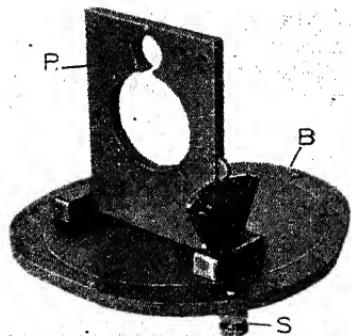

Fig. 44.—Turntable for testing compasses.
**Apparatus Used.**—A turntable for testing compasses is seen in Fig. 44. It has a base *B*, three leveling screws *S*, and a plate *P*, to which a compass may be fixed. The plate may be sloped to the front or back and locked in that position.